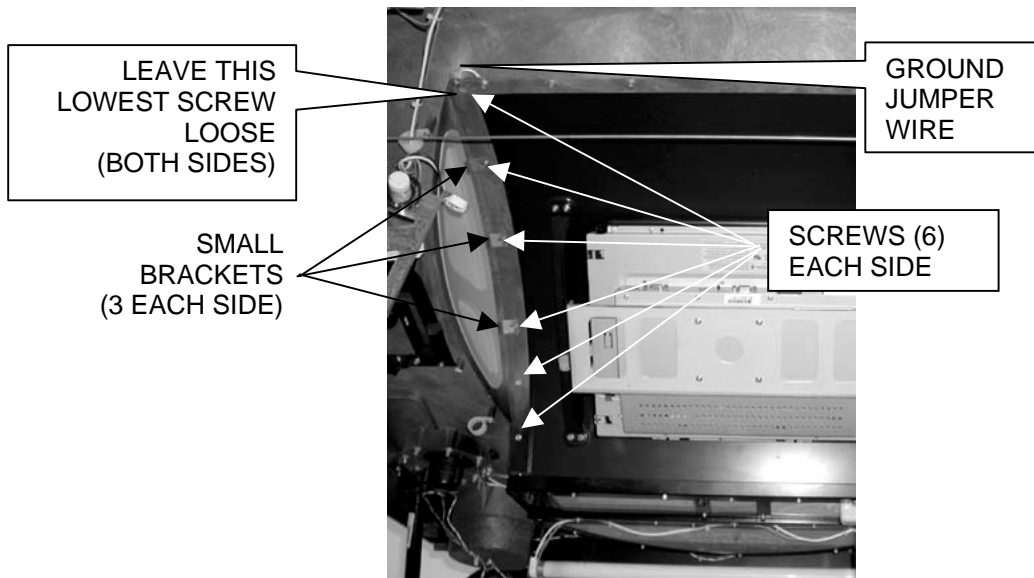

Figure 18 - Installing Left Vertical Trim Piece
4. Replace the pocket lenses and continue to work your way down each side of the door. Use the #8-32 x 5/8" machine screws from the original installation and install the small brackets as shown in *Figure 18* as you go. Use one of the original 5/8" screws in the lowest position to re-attach the ground jumper wire that was removed earlier. **Do not tighten** the lowest screws yet to allow for easier installation of the bottom trim piece.